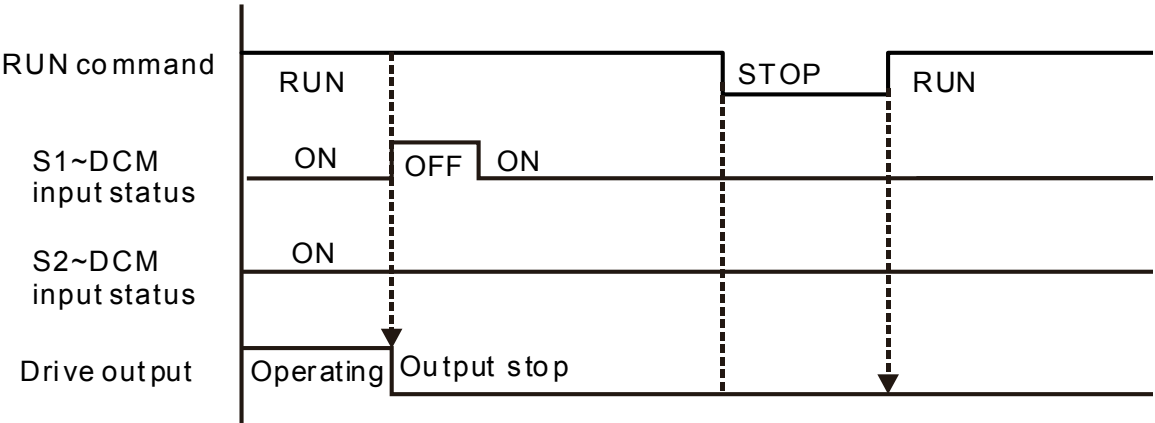

Figure 8
As shown in Figure 8: When S1~DCM is OFF during operation (STO function is required) and S2~DCM is ON (STO function is not required), the drive will stop outputting and keypad will show STL1 error. However, STL1 error cannot be reset even if the S1 status is restored (ON) regardless of the parameter setting. Turn the power on after power off to reset, thereby the drive can restore to normal standby state.